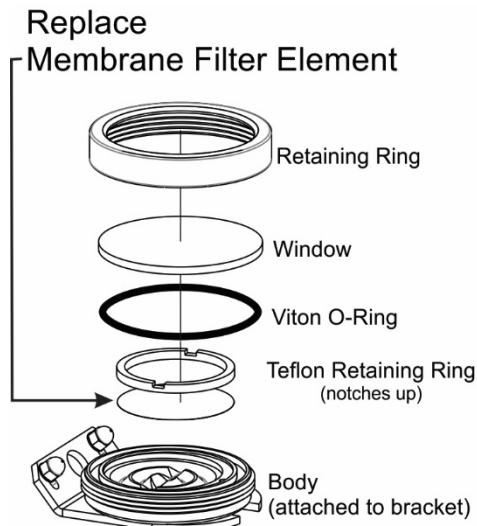

Figure 5-6. Replacing the Particulate Filter
2. Open the hinged rear panel and unscrew the Retaining Ring on the filter assembly (Figure 5-6).